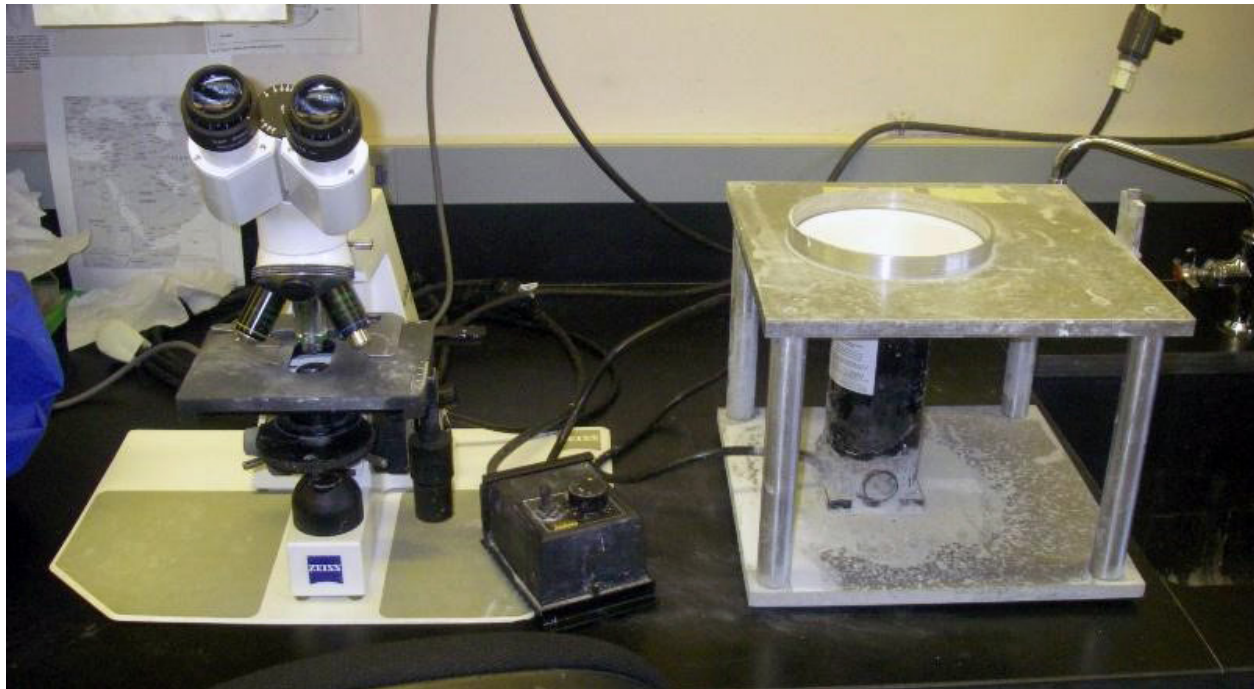

Figure 2. Laboratory equipment used to process otoliths: A light microscope (left) and an otolith grinding machine (right).
- Grinding machines (Figures 2 and 3)
- Light microscope (Figures 2 and 3)